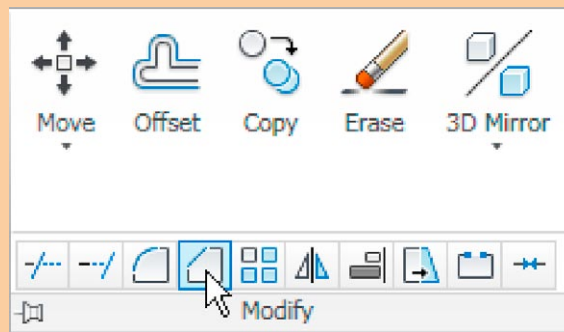

Fig. 12.32 The **Chamfer** tool icon in the **Home/Modify** panel
6. Click the **Chamfer** tool in the **Home/Modify** panel (Fig. 12.32). The command line shows: